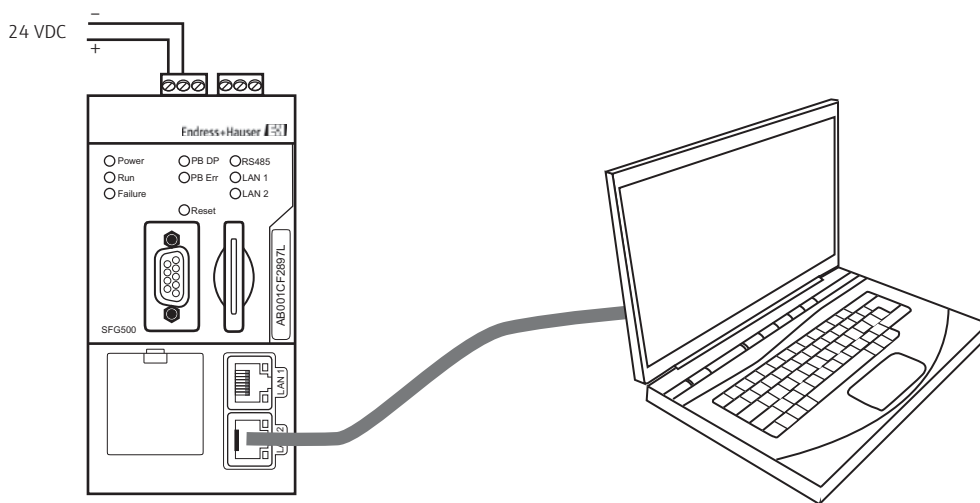

Fig. 7-3 Connecting the computer to the Fieldgate SFG500
2. Connect the laptop to the LAN2 port of Fieldgate SFG500 as shown in Fig. 7-3.